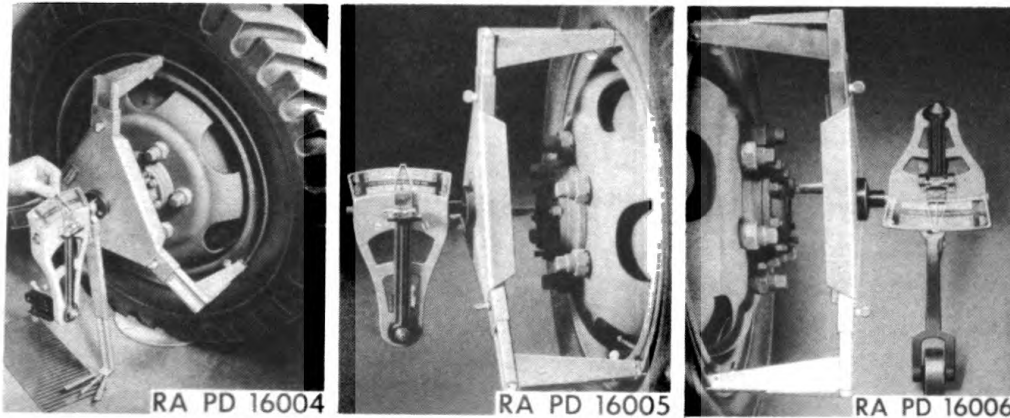

Figure 45—Checking Caster Angle **Figure 46—Checking Camber** **Figure 47—Checking Toe-In**
(1) Caster is the inclination of the center-line through upper and lower steering knuckle trunnions towards rear of vehicle, and is measured in degrees (dimension "L" in Fig. 44). The correct caster angle for this vehicle is 1 1/2 to 2 degrees. There is no adjustment for this dimension. An accurate determination of caster angle requires use of special instruments such as shown in Fig. 45, for example. Follow instructions of instrument manufacturer in making measurement.
(2) If axle caster angle is found to be less than 1 1/2 degrees or more than 2 degrees, it is probably the result of loose, sagging or broken springs, or of a twisted axle housing. Inspect springs and